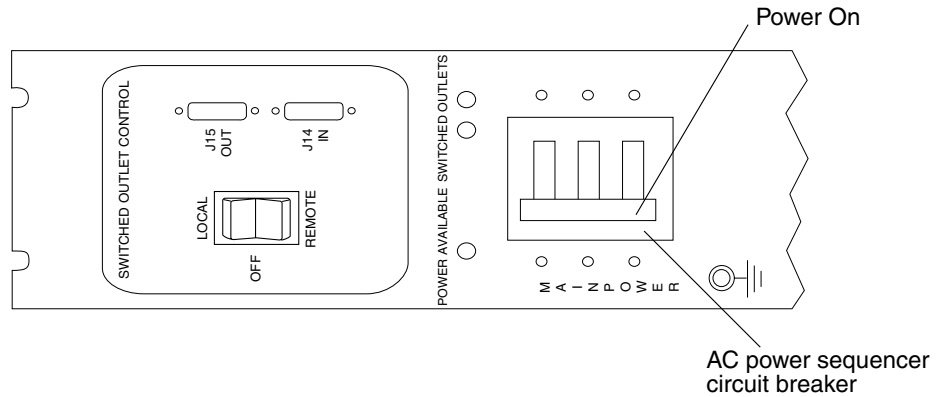

FIGURE B-11 AC Power Sequencer Control Panel: Power On
8. At the bottom front and bottom back of the base cabinet, press the AC power sequencer circuit breakers up to Power On position (FIGURE B-11).